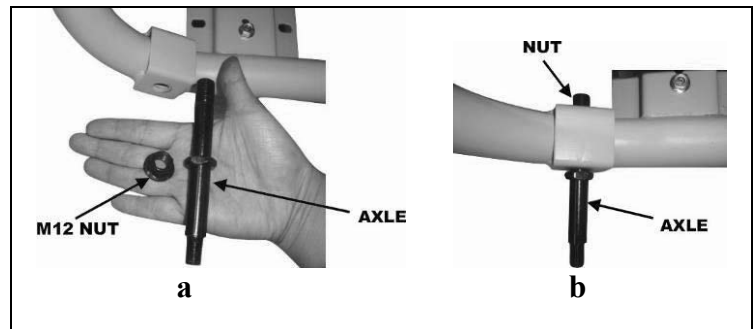

Figure 5- axle assembly
2. Take one wheel shaft, and one M12 nut as shown. Slide the wheel shaft, with the threaded part facing inward, through the frame. Secure using an M12 nut and the included wrench as shown in figure 5.